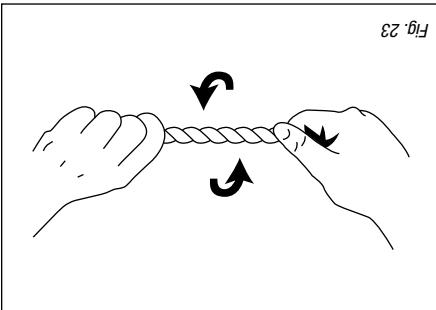

Fig. 22
- the safety bar of the autolocking carabiner must complete its rotation when closed (Figure 22).